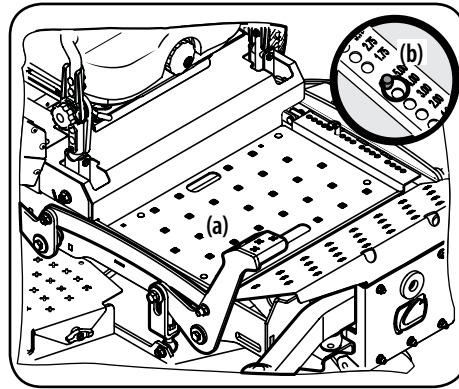

Figure 3-11
1. Use the deck lift pedal (a) to raise the deck to its highest position, place the clevis pin (b) attached to the tractor into the desired index hole on the deck height index, then slowly release the deck lift pedal (a). See Figure 3-11.